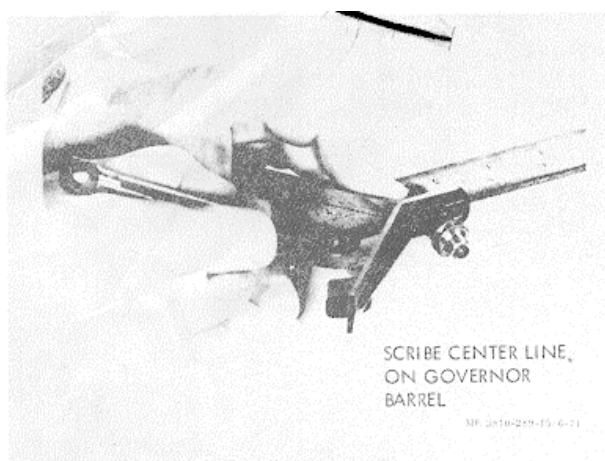
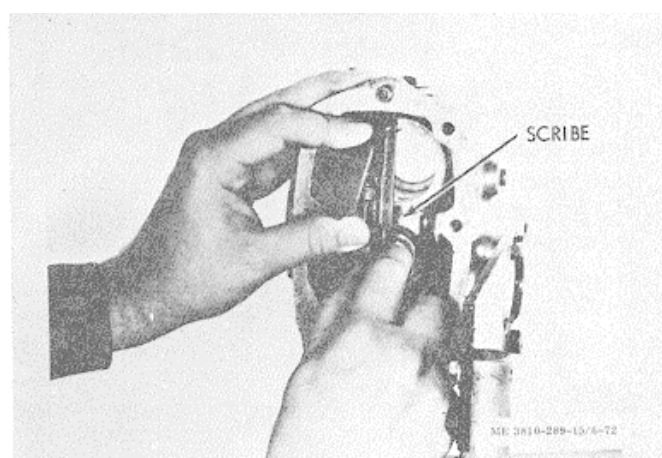

Figure 3-68. Center line being scribed on governor barrel.
Figure 3-69. Center line being scribed on fuel pump housing.
(1) To locate a new governor barrel in the housing, scribe a center line on barrel and housing, lining up the fuel passages so fuel now will not be restricted, figure 3-68 and figure 3-69.
(2) Heat housing in oven to 300 F.
(3) Cool barrel in dry ice or other method.
(4) Coat new governor barrel with high pressure lubricant.
(5) Drop spring pack housing in place.
(6) Place governor barrel in housing bore with chamfered end first and location pin hole on bottom side, lining up scribe marks, then press barrel in housing with arbor press until it bottoms against spring pack housing. This is important to align barrel retaining pin holes. Scribe marks must align within 0.040 inch to assure indexing of the vent holes.